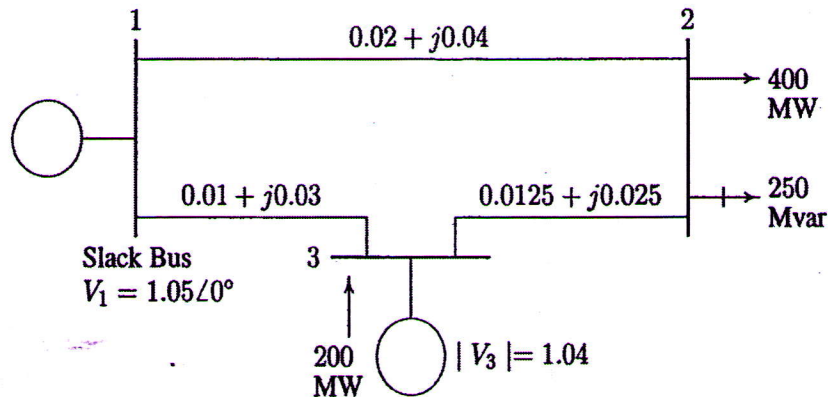

Fig.1
- 13 a) Consider the one line diagram of a power system as shown in Fig.1. Line (10) impedances are marked in per unit on a 100MVA base. Obtain the load flow solution using Gauss Siedel technique.